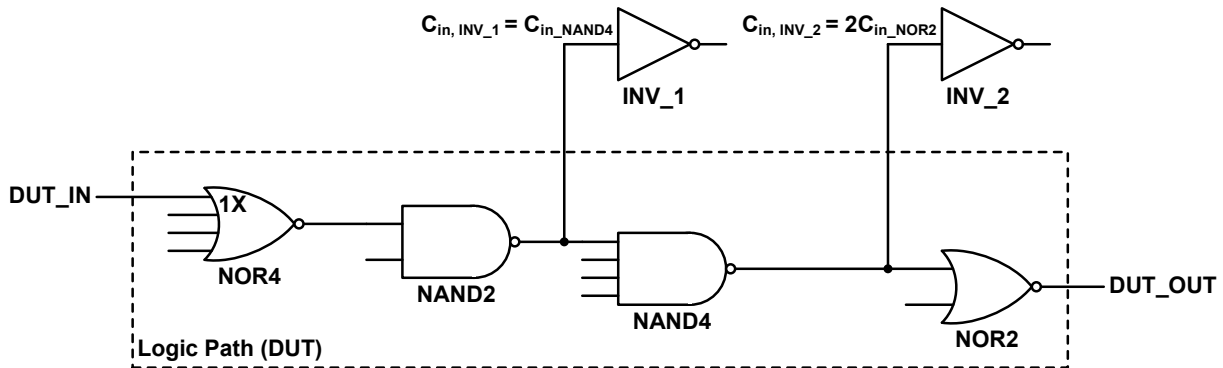
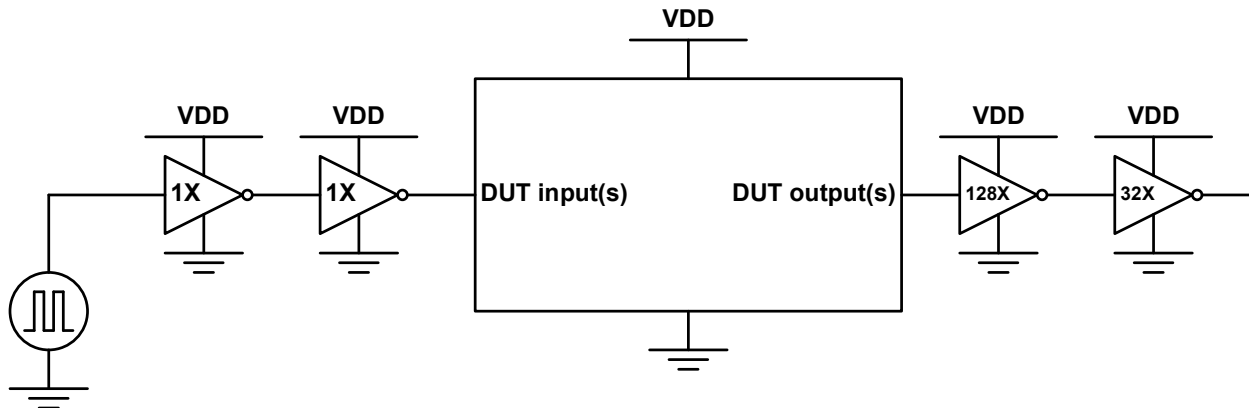
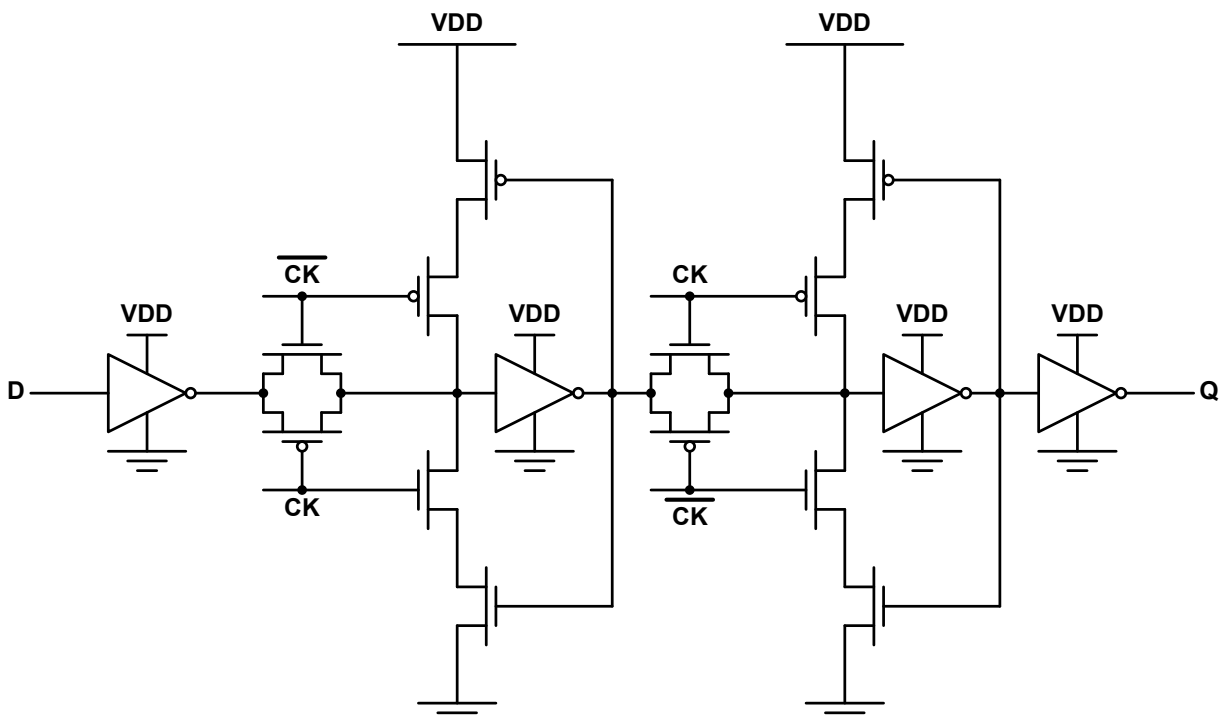
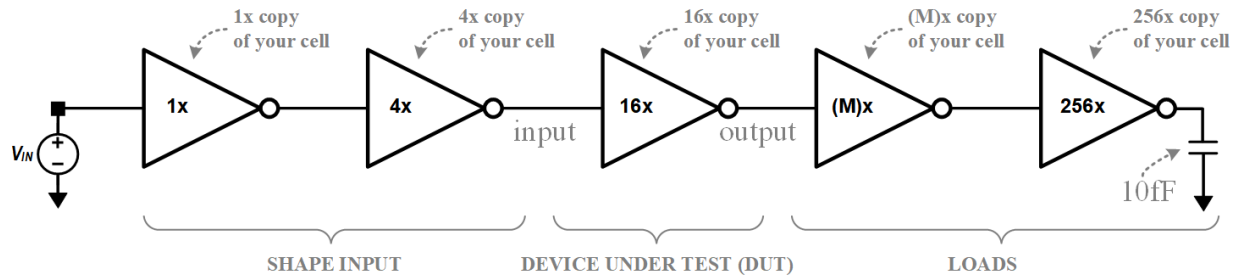

Fig. 1. Schematic of the critical path with branch paths.
Fig 2. Testbench circuit for the measurement.
Fig. 3. Schematic of a Transmission Gate Flip-Flop (TGFF).
Fig. 7. Circuit template for FO4 delay measurement.
Q1. The critical path of a synchronous circuit is given in Fig. 1. Draw the schematic of the logic path in gpdK045 and size the transistors for 1) minimum energy; 2) minimum delay at rising edge; 3) minimum delay at falling edge. You need to build the testbench given in Fig. 2 for delay measurements. Evaluate path delay in these sizing strategies and comment on whether it is expected or not.
Q2. Optimize the logic path in Fig. 1 for minimum E^iD^j through determining the constant stage effort, ρ , and resizing the cells $[i,j]$ based on your matric number in Table A). Measure the energy sensitivity w.r.t. delay for the optimized design.
Q3. Fig. 3 gives a schematic for a Transmission Gate Flip-Flop (TGFF). It is a positive-edge triggered DFF, which takes a single input, D, to the output pin, Q, when clock, CLK, makes a low to high (rising) transition. Implement the given TGFF in 45nm and size the transistors for minimum energy (assume p_n ratio = 1.4 for inverters). Show the functionality of the circuit with schematic (pre-layout) simulations. Measure the setup time and clock-to-Q time, τ_{CQ} , of the TGFF. You need to reuse the testbench given in Fig. 2 for the measurements. Assume $V_{DD} = 1V$.
Q1. Reuse the schematic of the logic path (minimum energy sizing) in Fig. 1 while ignoring the two inverters in branches. Assume $V_{DD} = 1V$. Measure the leakage current when DUT_IN is stabilized at $V_{DD}/0V$ and comment on differences between the results in the two cases. You may reuse the testbench circuit in Fig. 2 but separate the power supply for the driving and loading inverters.
In this lab experience, you are going to study the relationship between a path delay and FO4 delay with voltage scaling and variations. You may assume a pn ratio of 1.4 in this lab experience and choose input transition from Table C. Perform minimum energy sizing and ignore the two inverters in branches whenever the logic path given in Fig. 1 is reused.
Q1. Reuse the circuit template in Fig. 7 with minimum-sized inverter cells to measure FO4 delay. Perform VDD scaling (from 0.5V to 1V in 0.05V step) for the circuit template and measure FO4 delay at these voltage points. Then, perform the same VDD scaling to the logic path given in Fig. 1 with the testbench circuits given in Fig. 2. Make a plot for VDD vs. logic path delay. Also, make another plot for VDD vs. logic path delay in terms of FO4. Comment on whether it is expected or not.
Q3. Characterize the path delay in Fig. 1 at all corners and report the worst corner across P, V ($\pm 5\%$ within nominal VDD) and T (-40°C to 125°C). Verify if the ratio of the path delay and FO4 delay at the same corner is nearly constant, reporting numerical values of the ratio in a table and providing comments. Assume nominal VDD and temperature when measuring the path-delay-to-FO4-delay ratios.
In this lab experience, you are going to study path-based variability of the logic path in Lab Experience 1. Choose input transition from Table C. Perform minimum energy sizing and ignore the two inverters in branches whenever the logic path given in Fig. 1 is reused.
Q1. Using the Monte Carlo simulations for 1000 runs, find the maximum path delay for logic path given in Fig. 1 at typical (TT) corner such that yield is 98%.
Q3. Analytically estimate the variability of the logic path (from Fig. 2) due to within-die variations under the worst-case corner (as found in Lab Experience 3 Q3) and compare the theoretical results with the Monte Carlo simulation results for 1000 runs.